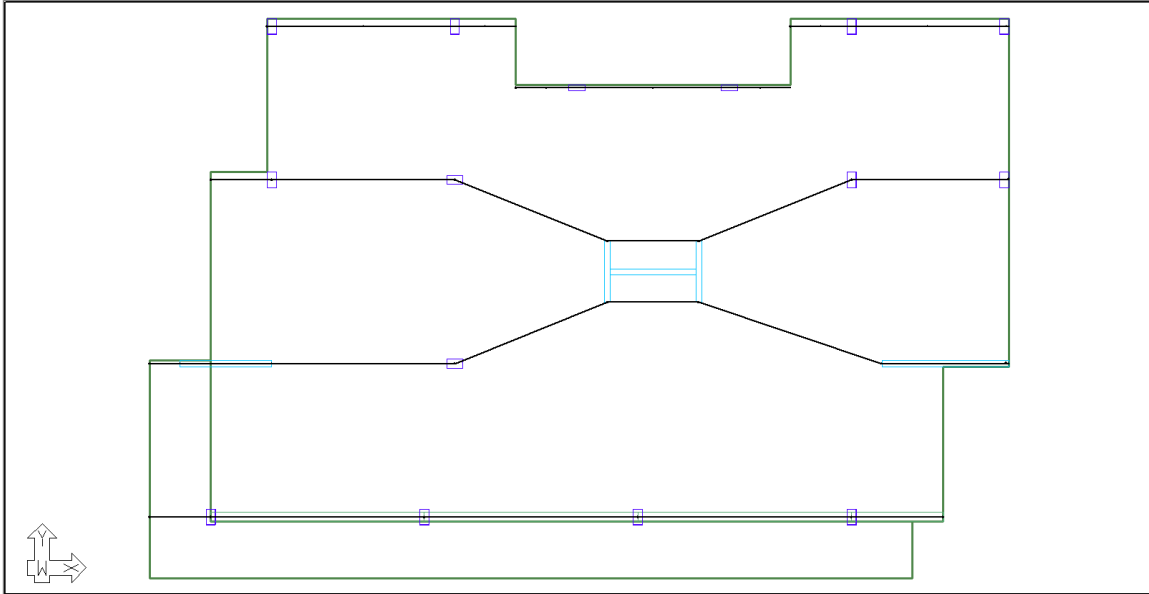

FIGURE 9-17
- When all X-direction support lines are entered your model will look like **FIGURE 9-17**.